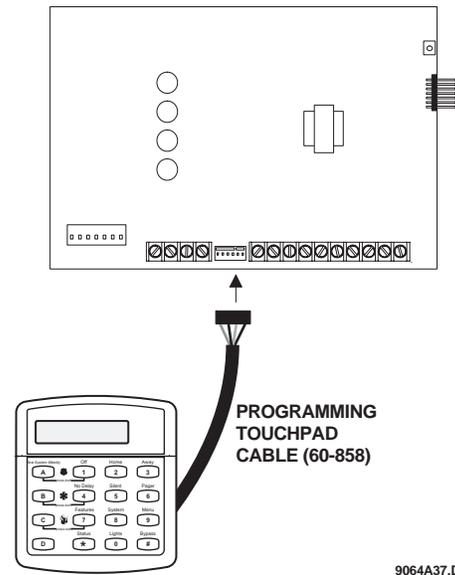

Figure 5. Where to Connect a Programming Touchpad
1. *With the panel powered up*, connect the cable onto a panel Programming Touchpad Header (see Figure 5).